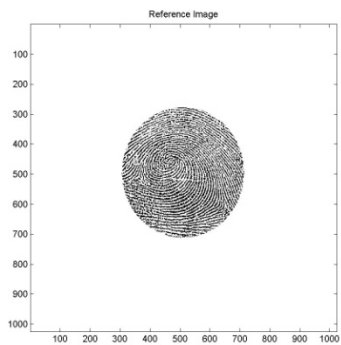

Figure 1: Reference Image
2. A rectangular section is cropped from the image in Figure 1. This will be used as the filter. However, as is, it will respond to “dc” or constant intensity regions. To fix this, subtract its average value out so that its dc response will be zero. Specify size, location and show your crop region.